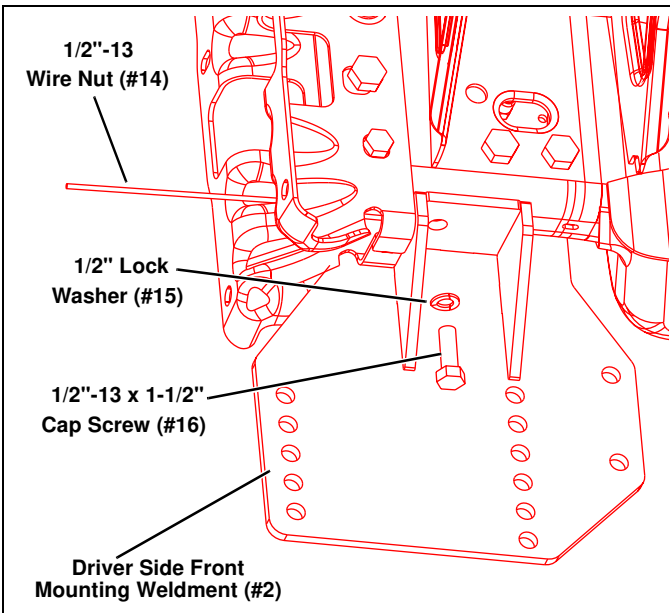

Figure 7
9. Insert a 1/2"-13 x 1-1/2" Cap Screw (#16) through a 1/2" Lock Washer (#15), the Driver Side Front Mounting Weldment (#2), and truck frame rail. Secure using a 1/2"-13 Wire Nut (#14). (See Figure 7.)